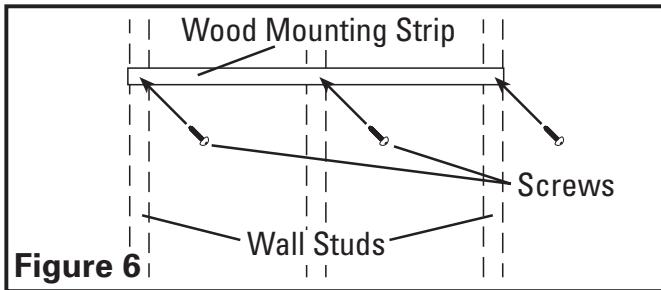

Figure 6
- Secure the included wood strip in place using the provided 2" mounting screws making sure the screws are fastening into the wall studs (Figure 6).